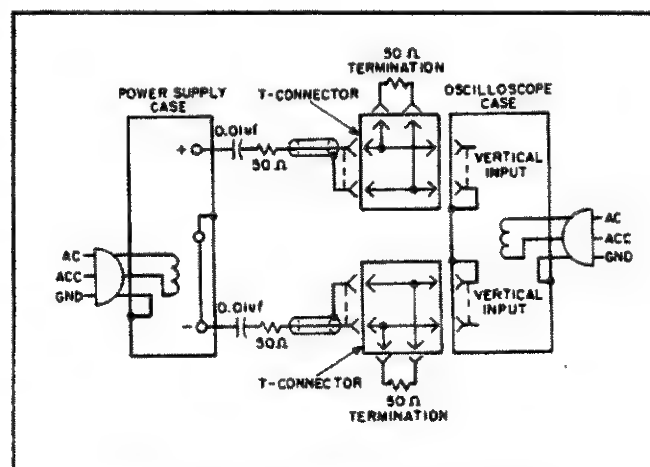

Figure 5-3. CV Noise Spike Test Setup
- As shown in Figure 5-3, two coax cables, must be substituted for the shielded two-wire cable.